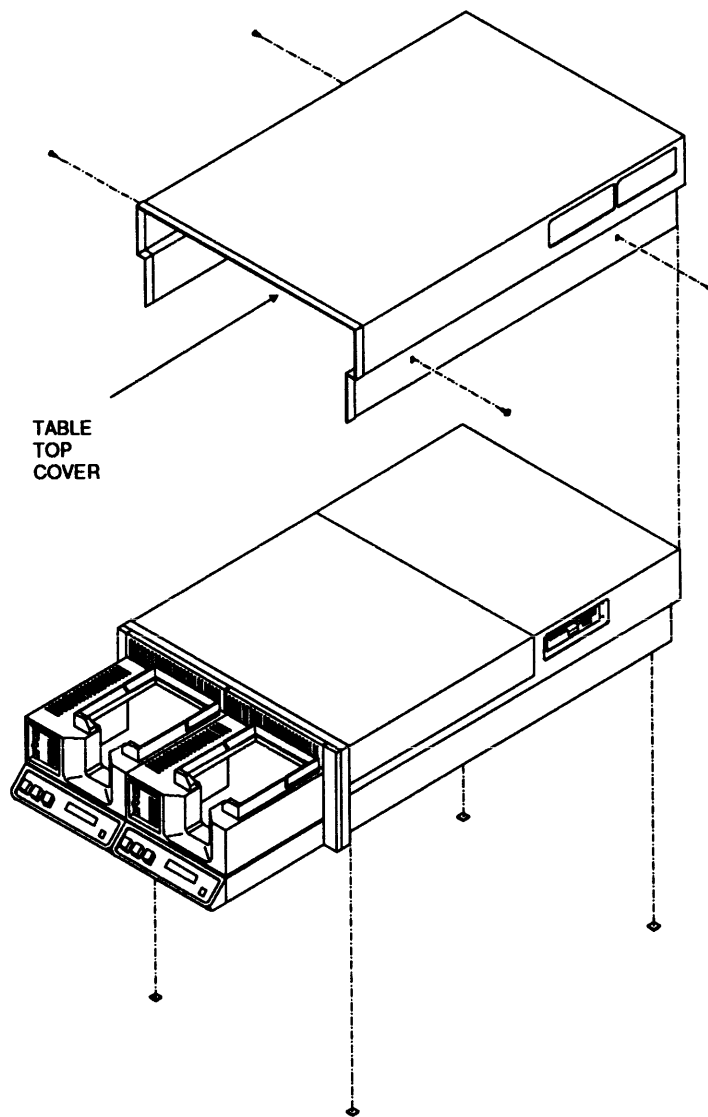

Figure 5.
You may install a unit on top of a desk or table instead of in a rack. (Refer to Figure 5.)
2. Slide the table top cover on the unit from the back, noting the opening on the left side of the unit, which allows access to the floppy disk drive. The trip strip of the cover will be located toward the front of the unit. (Refer to Figure 5.)